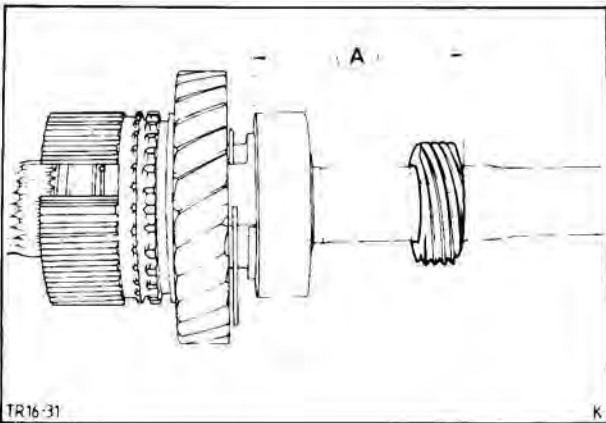

Fig. 41. Location of speedometer worm gear
- Fit speedometer worm gear, Fig. 41.